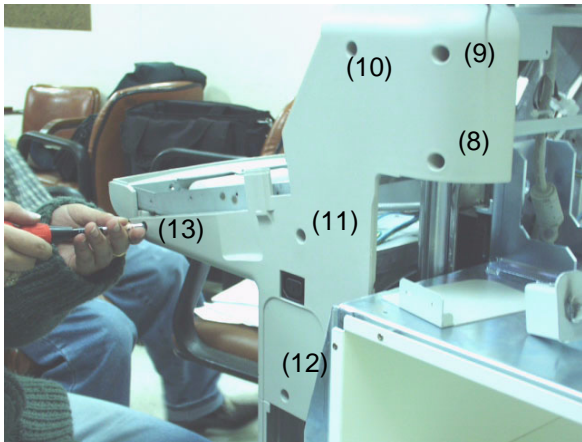

Figure 8-61 Removing the OP Side R Cover
8.) Unscrew six (6) screws (8-13) and remove the OP Side R Cover. Refer to Figure 8-61.